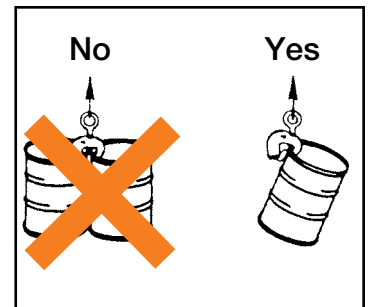

Figure 59
**⚠ WARNING!: Do not lift more than one drum per clamp (Fig. 59).**